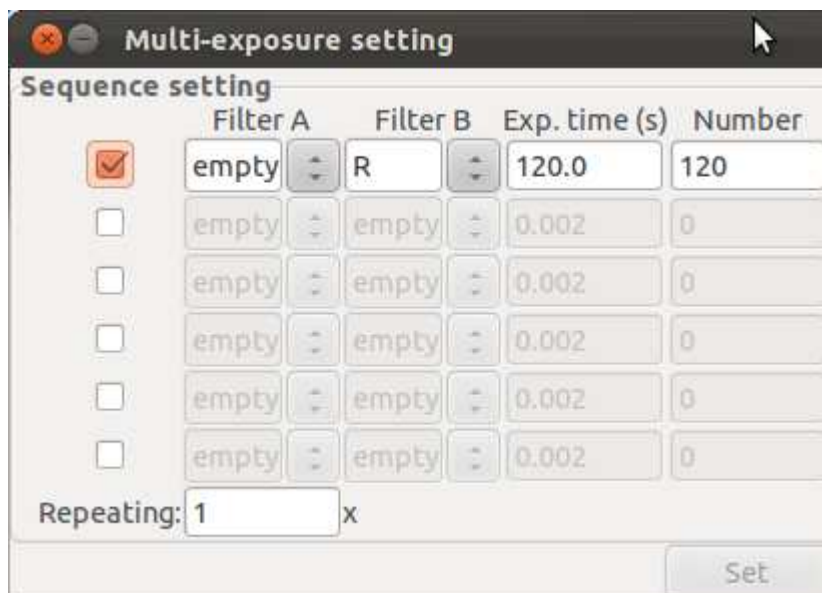

Fig. 9: Multi-exposure setting
**Multi exposure:** ARS-Client allows set a sequence of exposures with different filters. It is called multi-exposure. Setting of the multi-exposure is possible in Multi-exposure setting window (see Fig. 9). There is possible to specify six of different settings. Settings are processed gradually. At last there is possible to set count of repeating all of these settings. Each setting specifies: